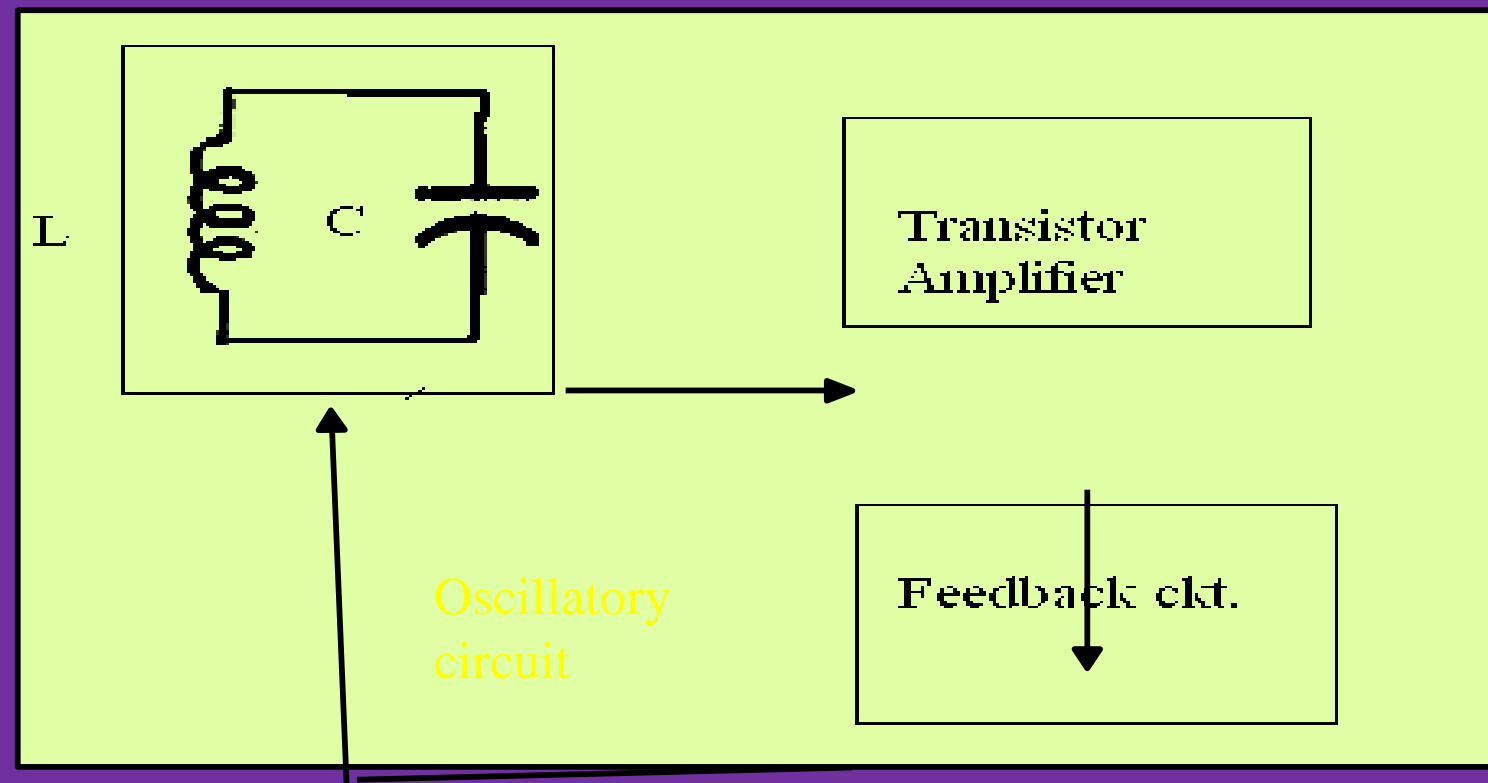

Fig 2.2 (a)
- The following block diagram, fig.2.2(a), shows the essential parts of an oscillator.